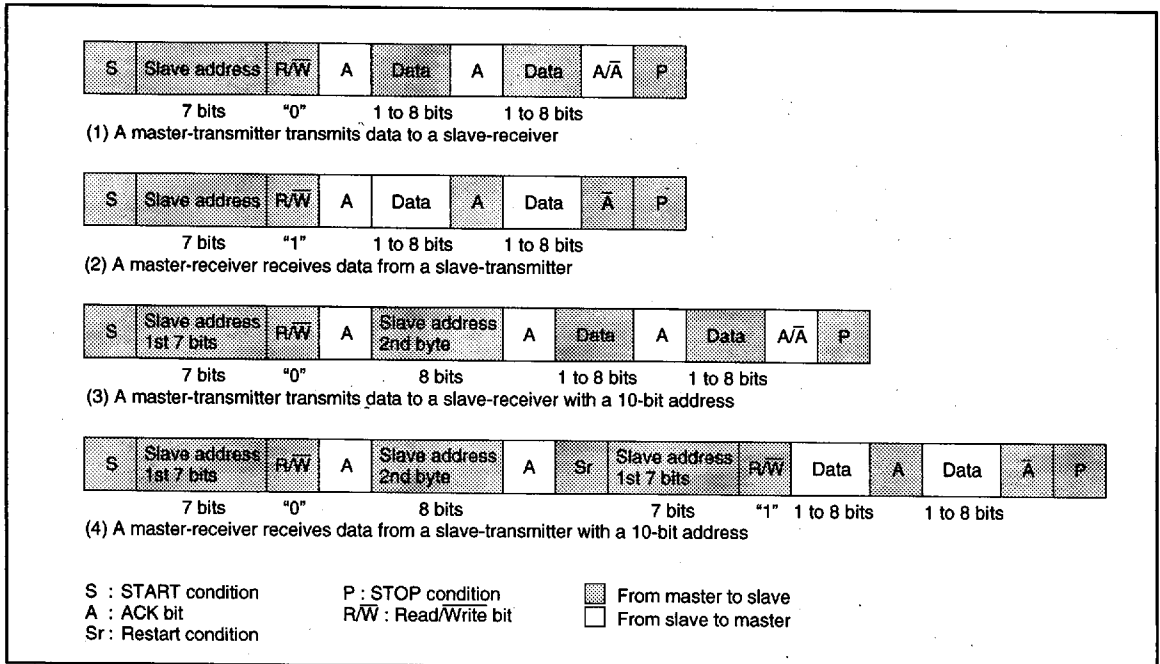

Fig. 44. Address data communication format
① 7-bit addressing format
To meet the 7-bit addressing format, set the 10BIT SAD bit of the I²C control register (address 00F9₁₆) to "0." The first 7-bit address data transmitted from the master is compared with the high-order 7-bit slave address stored in the I²C address register (address 00F7₁₆). At the time of this comparison, address comparison of the RBW bit of the I²C address register (address 00F7₁₆) is not made. For the data transmission format when the 7-bit addressing format is selected, refer to Figure 44, (1) and (2).
② 10-bit addressing format
When the first-byte address data matches the slave address, the AAS bit of the I²C status register (address 00F8₁₆) is set to "1." After the second-byte address data is stored into the I²C data shift register (address 00F6₁₆), make an address comparison between the second-byte data and the slave address by software. When the address data of the 2 bytes matches the slave address, set the RBW bit of the I²C address register (address 00F7₁₆) to "1" by software. This processing can match the 7-bit slave address and R/W data, which are received after a RESTART condition is detected, with the value of the I²C address register (address 00F7₁₆). For the data transmission format when the 10-bit addressing format is selected, refer to Figure 44, (3) and (4).
- ⑥ When all transmitted addresses are "0" (general call)
- When the transmitted addresses match the address set in ①
- ⑦ Set dummy data in the I²C data shift register (address 00F6₁₆).
- ⑧ When receiving control data of more than 1 byte, repeat step ⑦.
- ⑨ When a STOP condition is detected, the communication ends.
(10) Example of Master Transmission